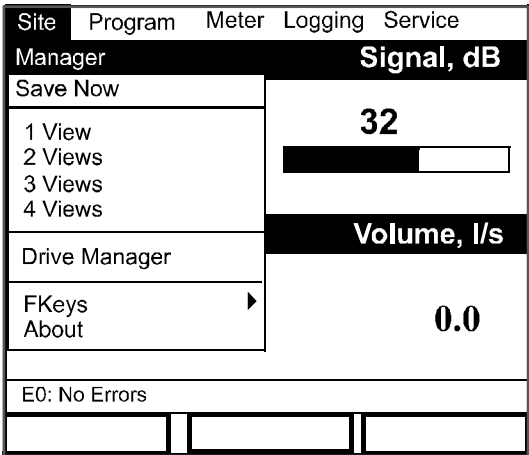
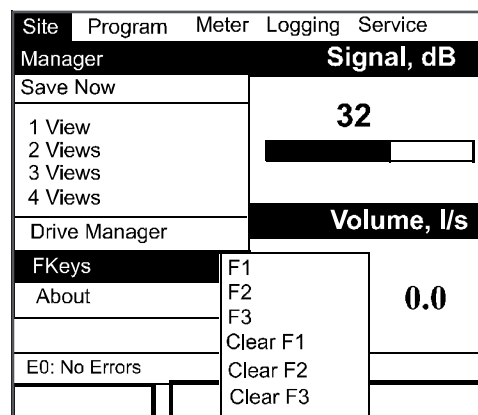
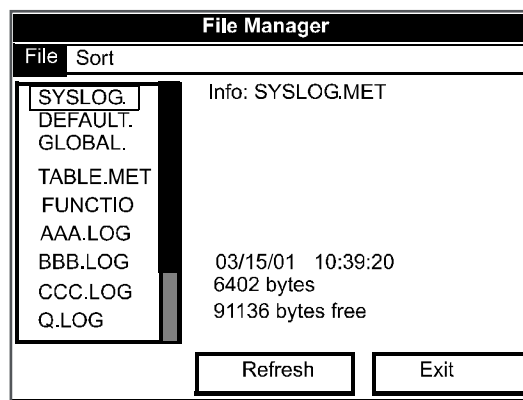

Figure 91: The Site Menu
Figure 93: The FKeys Menu
Figure 96: The Drive Manager Window
To enter the Site Menu, press the **[MENU]** key at the lower right of the PT878GC keypad. The Menu Bar replaces the Status Bar at the top of the screen. The Site Menu will be highlighted in the upper left corner. Press **[ENTER]** or the [▼] arrow key. The screen now appears similar to *Figure 91*. While following the programming instructions, refer to *Figure 163, "The Site Menu" on page 137*.
2. From the Site Menu (shown in *Figure 91*), use the **[▼]** or **[▲]** arrow keys to move to the desired number of views (1 View, 2 Views, etc.) Press **[ENTER]**.
2. From the Site Menu (shown in *Figure 91*), use the **[▼]** or **[▲]** arrow keys to move to the FKeys entry on the menu. Press **[ENTER]**. The screen now appears similar to *Figure 93*.
2. From the Site Menu (shown in *Figure 91*), use the **[▼]** or **[▲]** arrow keys to move to the Drive Manager entry on the menu. Press **[ENTER]**. The screen now appears similar to *Figure 96*.